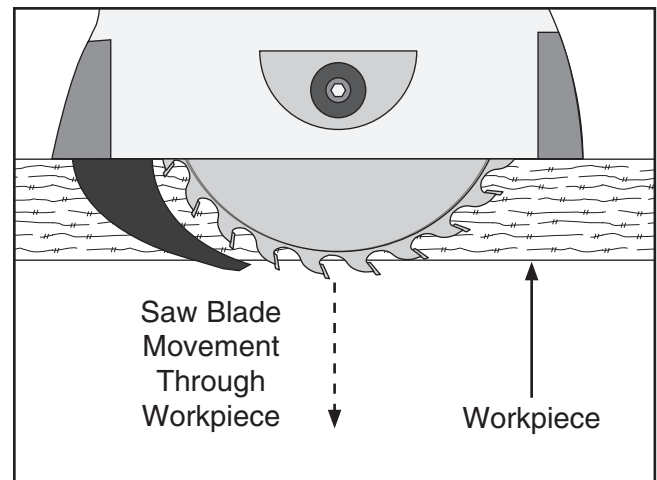

Figure 17. Plunge-action lowering through workpiece.
6. Lower blade until cutting depth is reached. Blade and riving knife will descend into workpiece (see **Figure 17**).